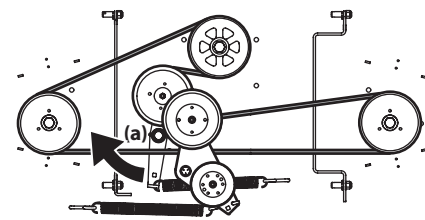

Figure 4-20
5. Using a 1/2" drive insert the end into the 1/2" square opening in the deck idler assembly (a) and rotate the deck idler assembly (a) clockwise. See Figure 4-20. While holding the deck idler assembly (a), loosen the deck belt from the pulley and slide the belt away from the pulley.
6. Route the new belt as shown in Figure 4-20. Then reinstall the deck and PTO belt.